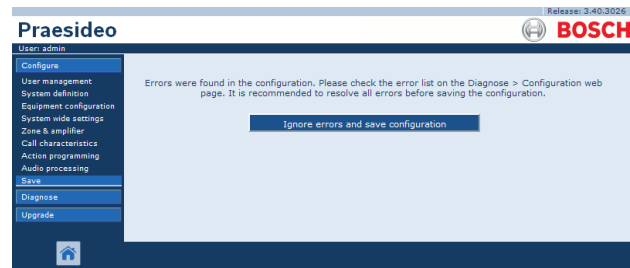

figure 40.6: Ignore errors and save configuration window
- When there are issues found, a message is displayed indicating there are configuration issues to be resolved first. Still it is possible to ignore the errors and save the configuration anyway to continue the configuration at a later time. Only one button is displayed: *Ignore errors and save configuration*. See figure 40.6.